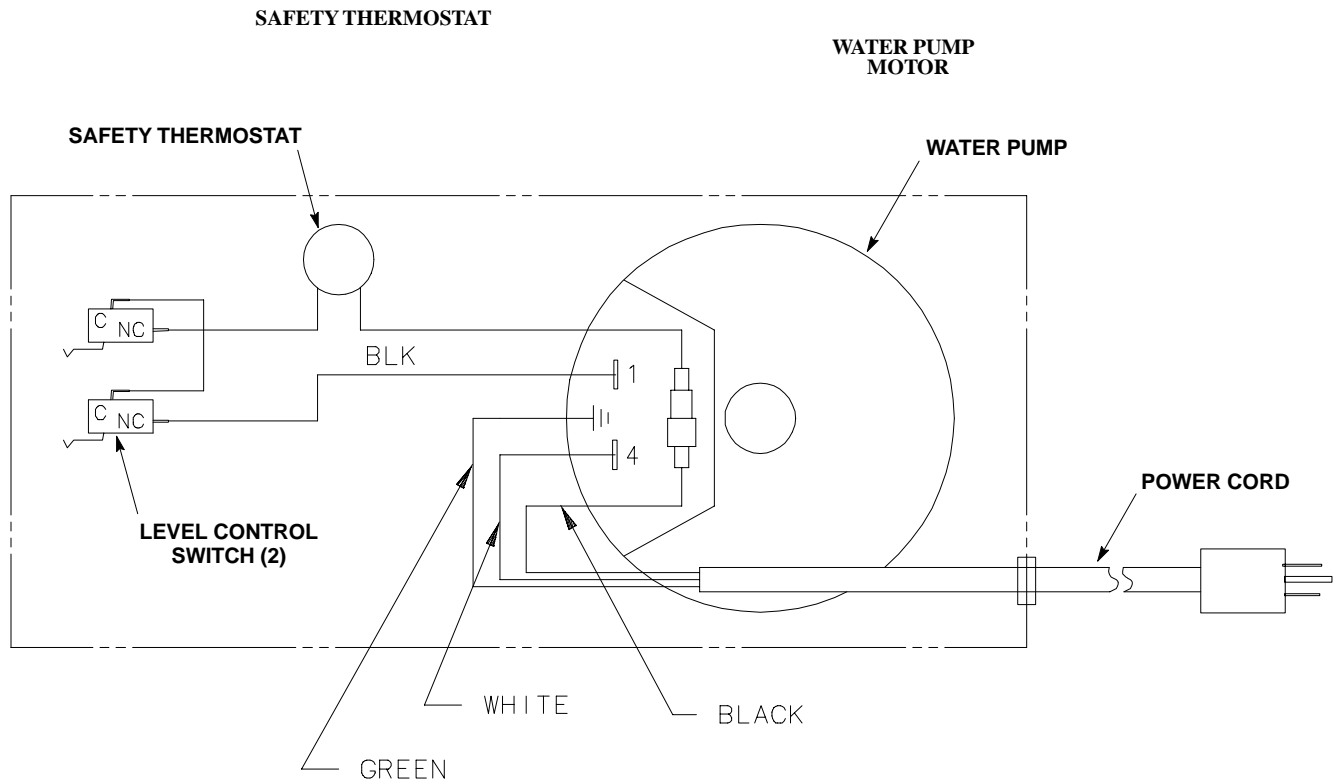

FIGURE 8. WIRING DIAGRAM (MODEL NO. 416411000 AND 1621)
2. Make sure electrical wiring is correct (see applicable Figure 8, 9, or 10).
2. Make sure electrical wiring is correct (see applicable Figure 8, 9, or 10)..
3. Make sure all wiring is correct (see applicable Figure 8, 9, or 10)..